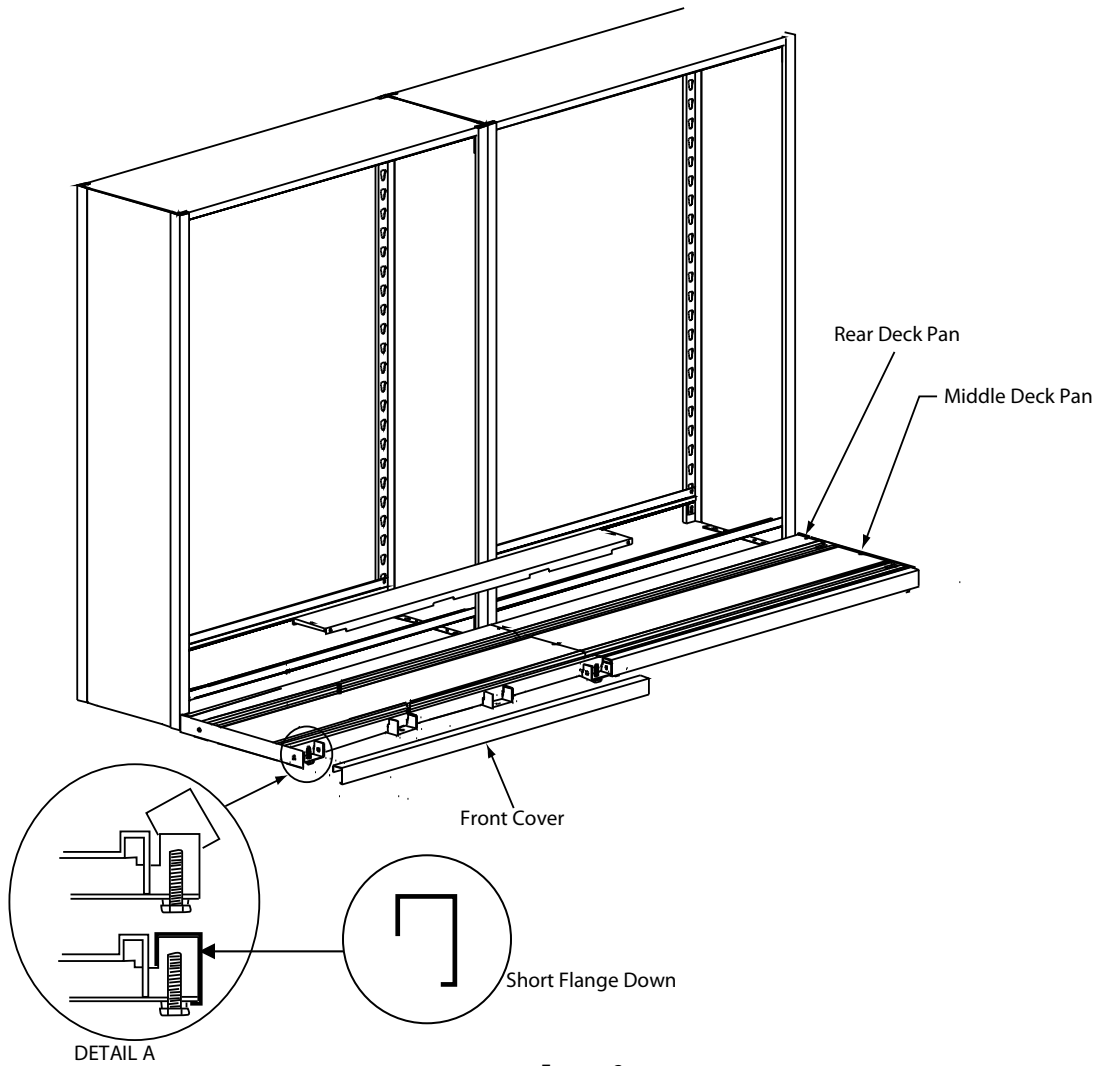

FIGURE 3
- STEP 1** Install the Rear Deck Pans, the Deck pan sections interlock with the Deck assembly. The Rear Deck Pans should be flush with the top of the Deck when properly installed. See Figure 3 .
- STEP 2** Install the Middle Deck Pans, the Deck pan sections interlock with the Deck assembly. The Middle Deck Pans should be flush with the top of the Deck when properly installed. See Figure 3 .
- STEP 3** Attach the Front Cover to each Deck section by snapping the Front Cover over the front Deck cross-mem bers. Make sure that the short flange is down. See Figure 3, Detail A . Repeat this step for remaining Deck sections.